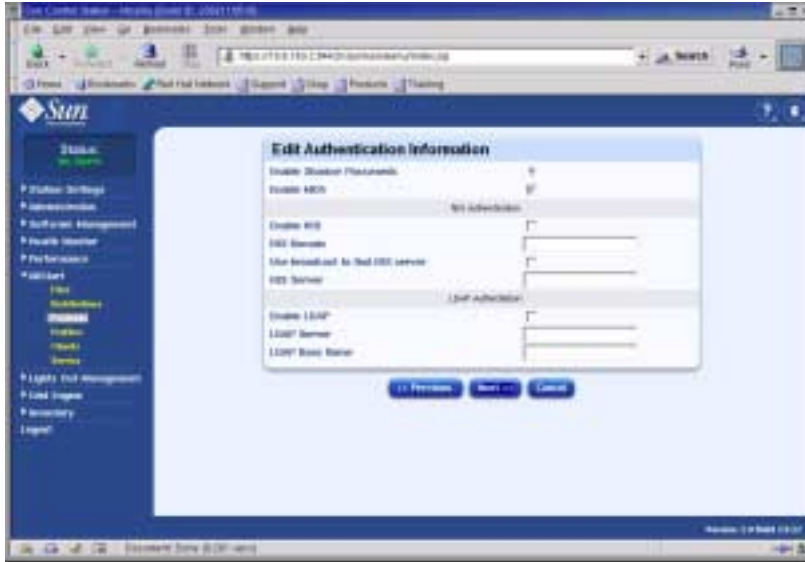

FIGURE 2-14 Edit Authentication Information Window (AllStart Profiles)
- e. In the Edit Authentication Information window, verify that the following required options are selected (see FIGURE 2-14 for an example). Click Next when you are finished.